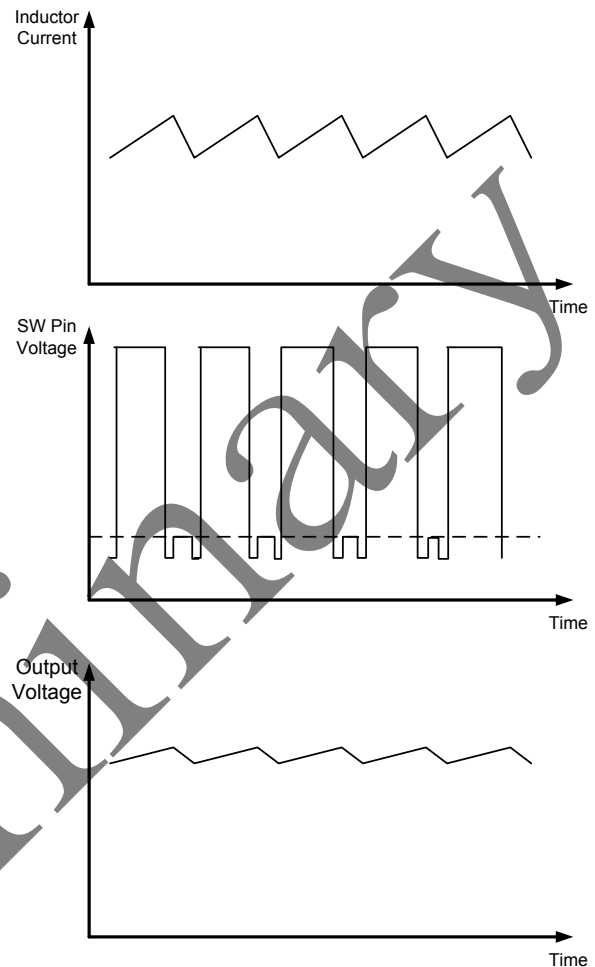
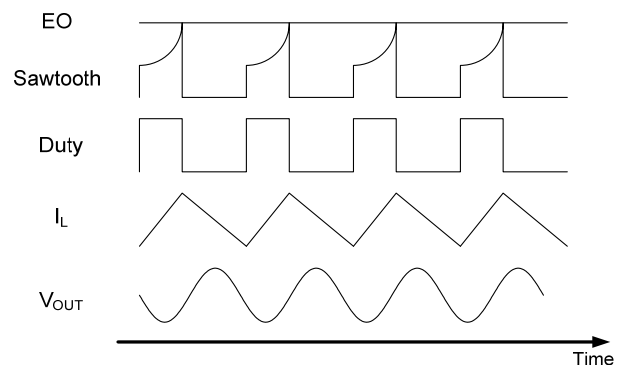

Figure 1. PWM Mode Operation Signal Waveforms
Figure 2. PWM Mode Control Signal Waveforms
AAT7358/ AAT7358A/ AAT7358B/ AAT7358C uses the peak current mode pulse width modulation (PWM) control scheme for fast transient response and cycle-by-cycle current limiting (Figure 1.). The PWM maintains a constant frequency and varies the duty ratio according to the output voltage and load current. This modulation scheme provides high efficiency at medium to heavy load conditions, and reduces the output ripple at light load conditions. In this operating mode, the PFET turns on each cycle for a minimum on-time of 25ns (typ.), and turns off when an internal sawtooth signal exceeds the error amplifier output (EO). The sawtooth signal is composed of the sensed inductor current and an artificial slope compensation ramp to prevent oscillation at duty ratios higher than 50%. After the high-side PFET is turned off, the low-side NFET is turned on until the next cycle begins. (Figure 2.) demonstrates the PWM mode control scheme.